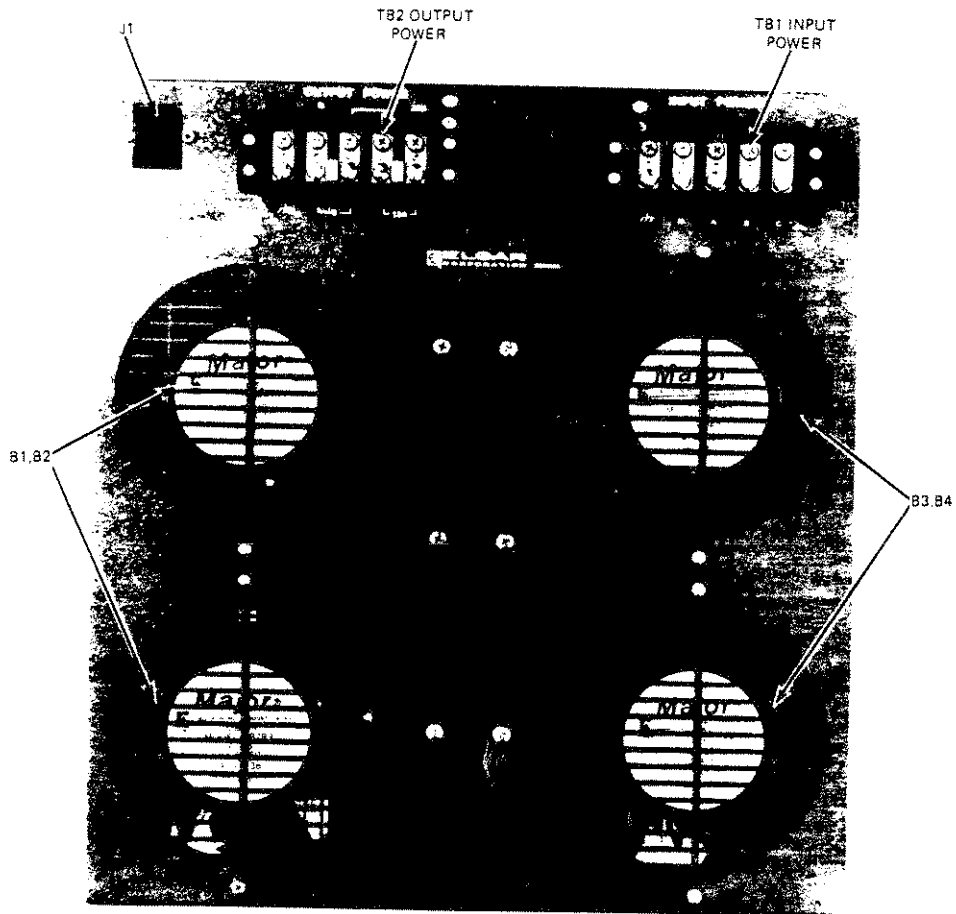

Figure 3-1. Rear Panel Terminal Strip Connections
3. Connect the load to the appropriate terminal of the rear panel power output terminal block (see Figure 3-1).